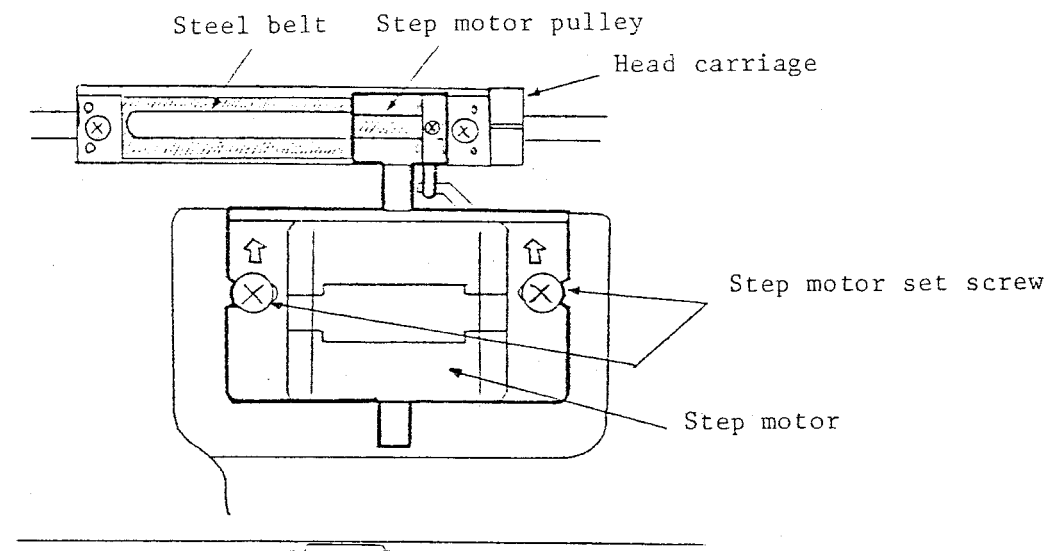

Fig. 4.22 Step Motor
- (2) Disassembling
- (3) Assembling
- (a) Mount the step motor with the set screws. At this time, press it in the arrowed direction (Fig. 4.22) and hold it temporarily.